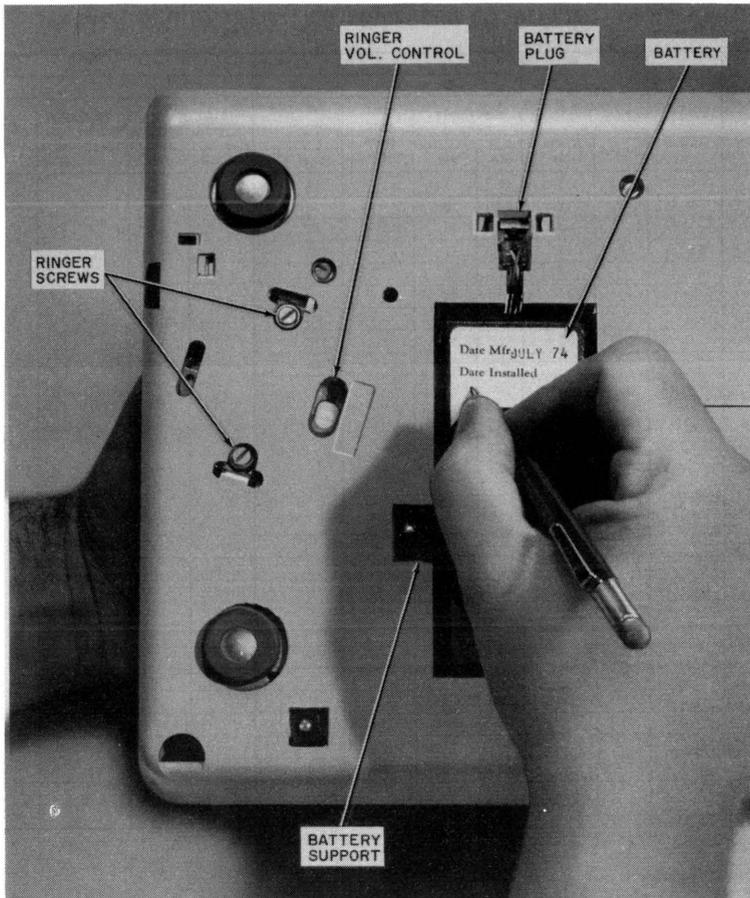

Fig. 6—2872A1M or 2872A2M Telephone Set, Bottom View
3.02 The set is shipped from the factory with the battery disconnected. After all wiring changes and modifications have been completed, connect the battery (Fig. 6) by tilting the set up, and inserting the battery plug into the mating jack.
(c) Bottom of telephone set (Fig. 6):